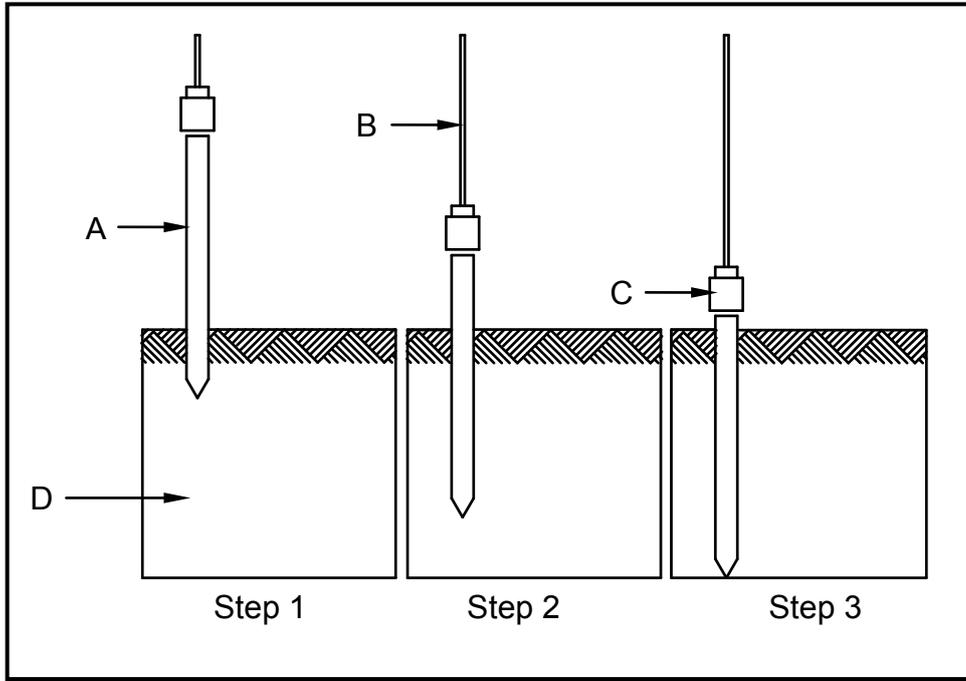

FIGURE 2.1
2.1 FIGURE 2.1 shows three steps of driving a pile into the ground.